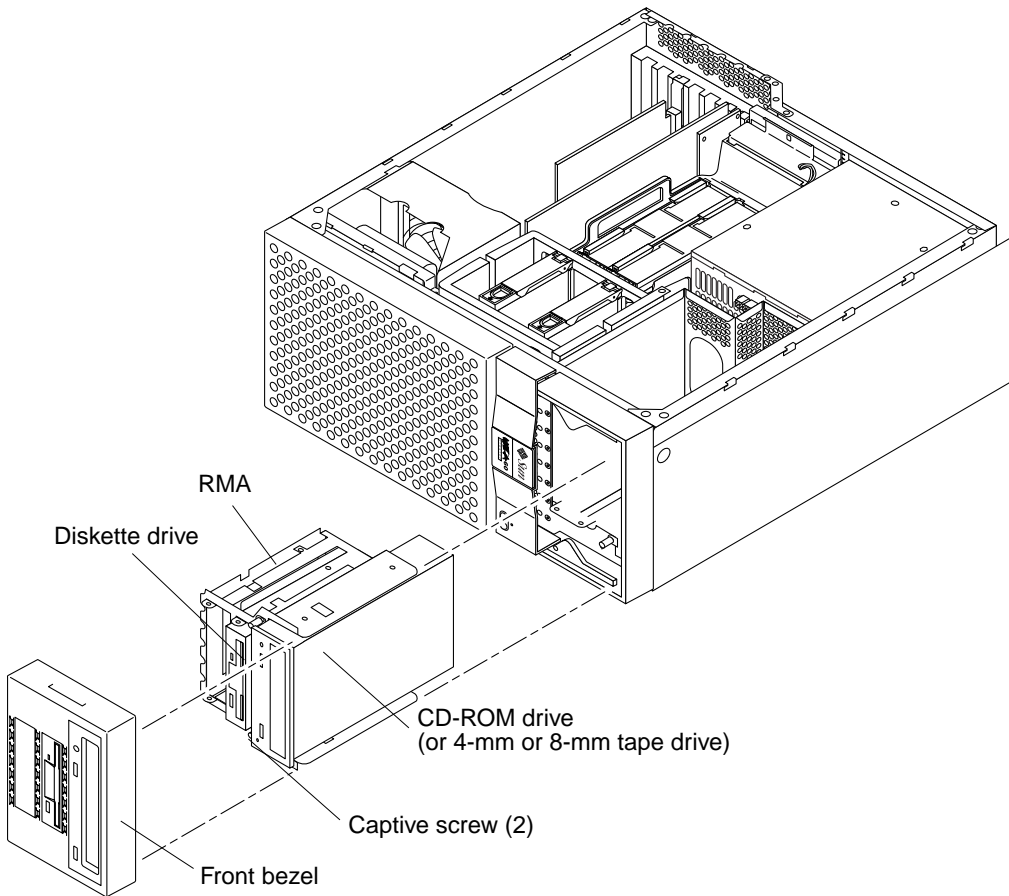
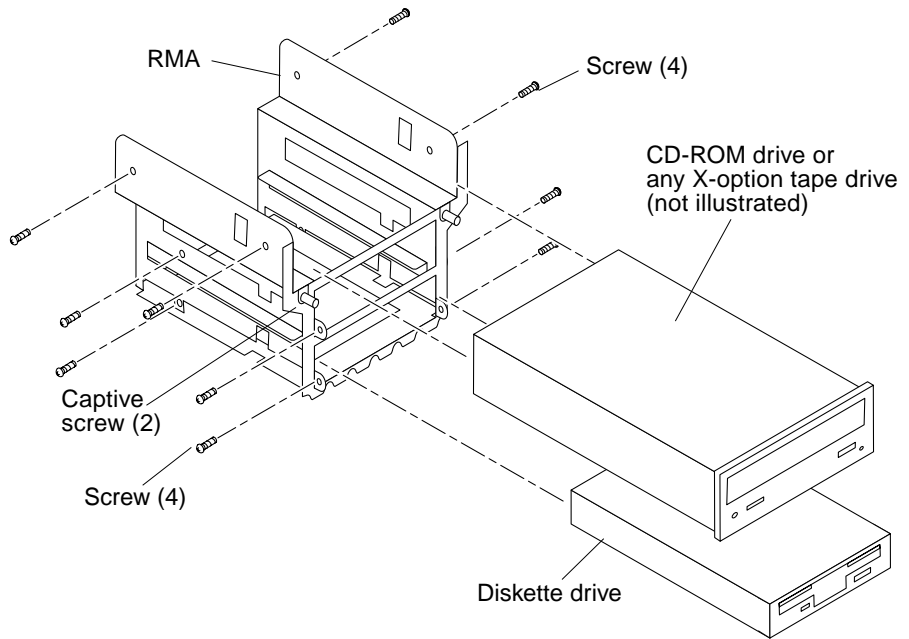

FIGURE 9-2 Removing and Replacing a RMA Drive (Part 1 of 2)
FIGURE 9-3 Removing and Replacing a RMA Drive (Part 2 of 2)
To remove and replace a removable media assembly (RMA) drive, it is necessary to remove and replace the RMA. To remove and replace the RMA and an RMA drive, refer to FIGURE 9-2 and FIGURE 9-3 and proceed as follows.
4. Remove the RMA as follows (FIGURE 9-2):
1. Position the RMA on a flat surface so that the CD-ROM drive or tape drive is flat (FIGURE 9-3).
1. **Position the CD-ROM drive or tape drive into the RMA (FIGURE 9-3).**
2. **Using a number 2 Phillips-head screwdriver, remove the four screws securing the diskette drive to the RMA (FIGURE 9-3).**
1. **Position the diskette drive into the RMA** (FIGURE 9-3).
1. **Replace the RMA as follows** (FIGURE 9-2):